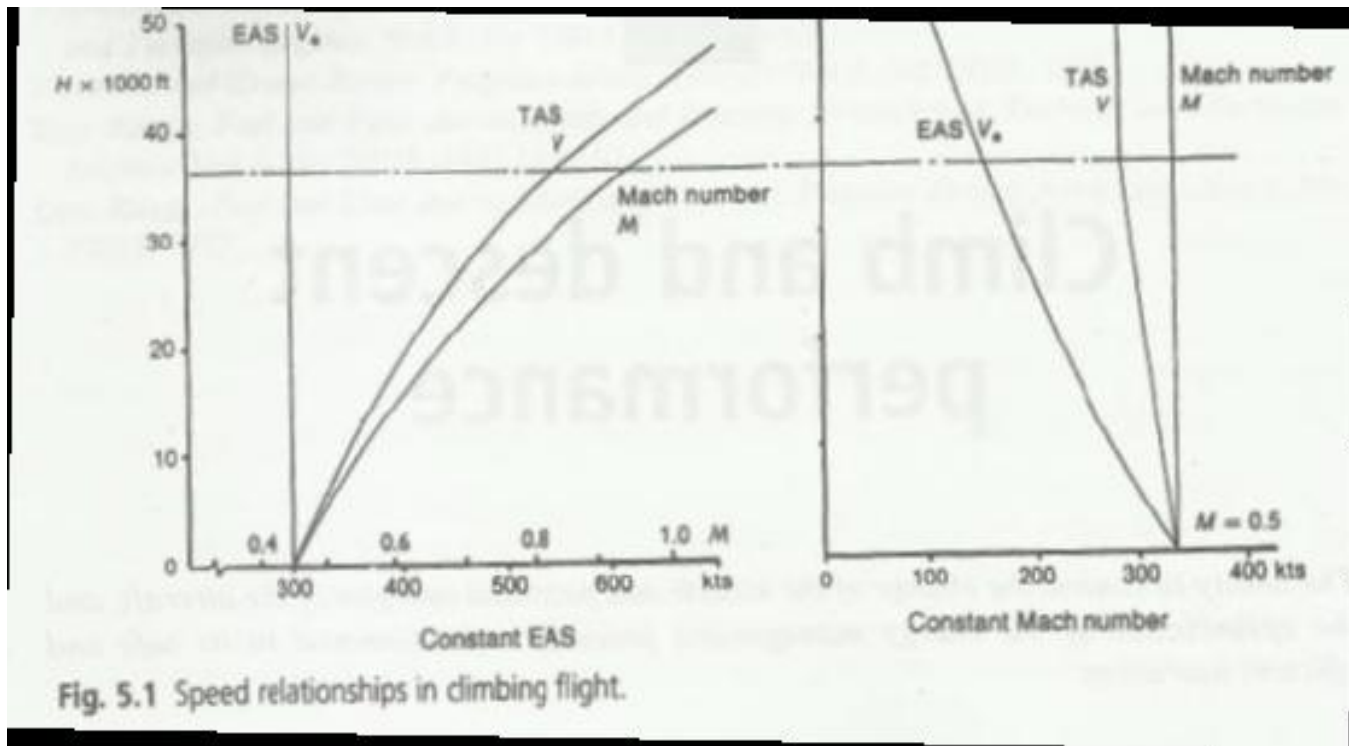

Fig. 5.1 Speed relationships in climbing flight.
- ❖ Fig5.1 shows the relationship between TAS, EAS and Min climbing flight